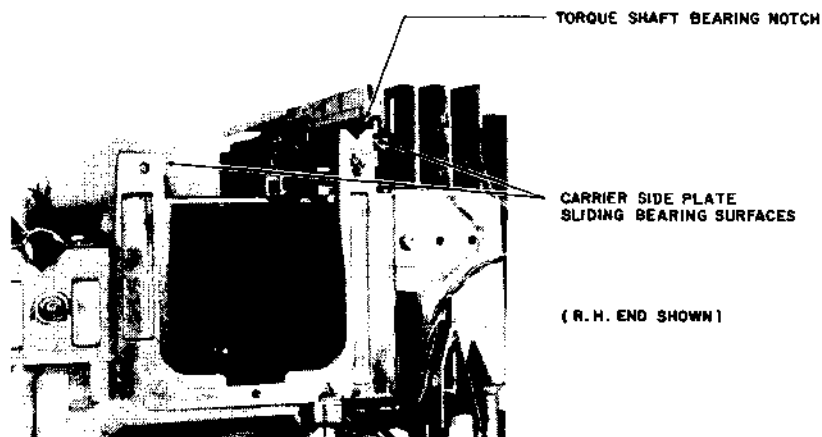

Figure 5-10 CARRIER SYSTEM REPLACEMENT
1. Clean all Carrier Subassembly bearing surfaces on the printer's main frame of old grease, etc. Reapply a light coating of multi-purpose grease to these points on both ends of the printer's main frame. Refer to Figure 5-10.